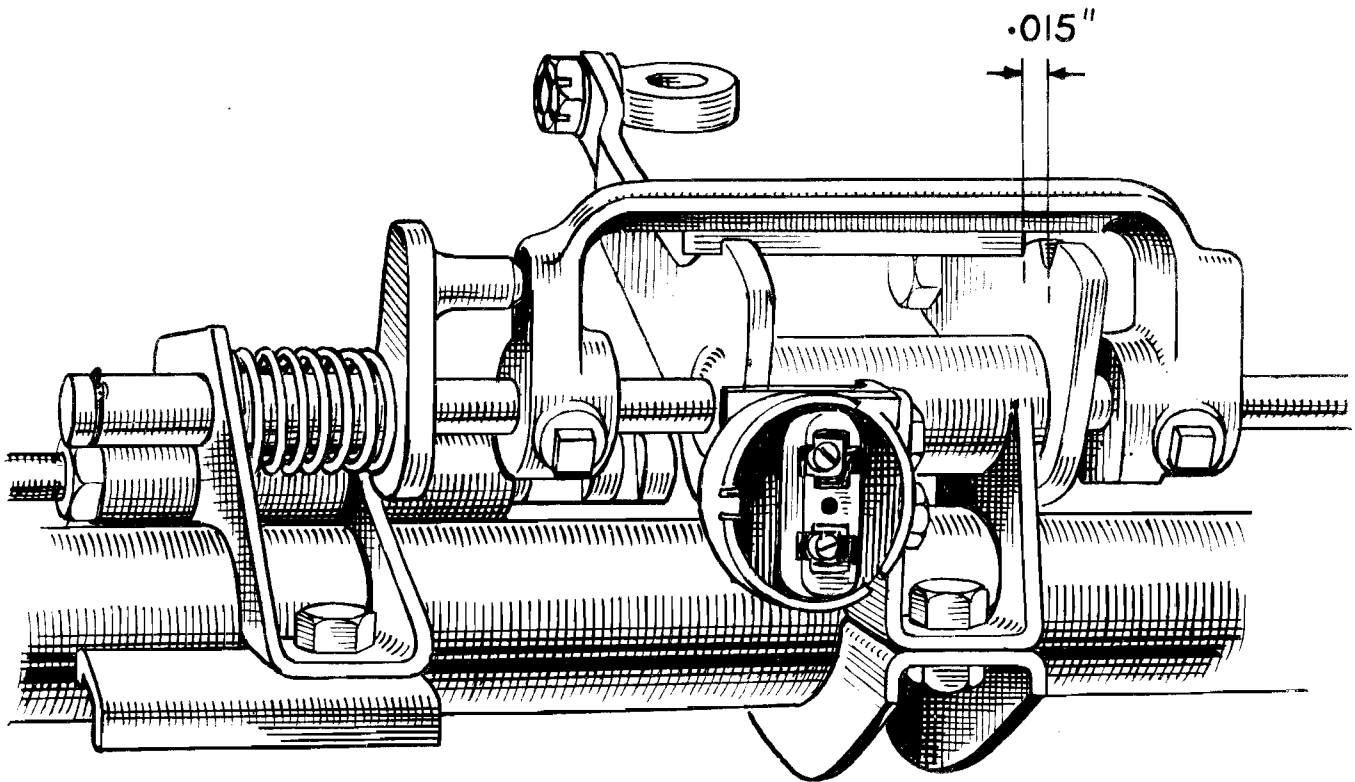

Fig. 15. Correct clearance between interlock spline and quadrant, with change-speed lever held as shown in Fig. 10.
4. Feed the intermediate bracket on to and along the steering column until a clearance of .010"—.015" is obtained as shown in Fig. 15. Set the bracket in a vertical position and tighten clamp bolts.